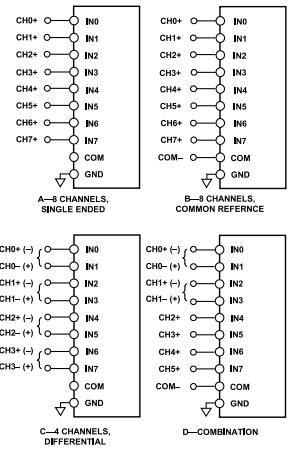

Figure 32. Multiplexed Analog Input Configurations
Figure 32 shows the different methods for configuring the analog inputs with the configuration register, CFG[12:10]. Refer to the Configuration Register, CFG section for more details.
- ▶ **Figure 32 (A)**, single-ended referenced to system ground, CFG[12:10] = 1112. In this configuration, all inputs (IN[7:0]) have a range of GND to VREF.
- ▶ **Figure 32 (B)**, bipolar differential with a common reference point, COM = VREF/2, CFG[12:10] = 0102. Unipolar differential with COM connected to a ground sense; CFG[12:10] = 1102. In this configuration, all inputs IN[7:0] have a range of GND to VREF.
- ▶ **Figure 32 (C)**, bipolar differential pairs with the negative input channel referenced to VREF/2, CFG[12:10] = 00X2. Unipolar differential pairs with the negative input channel referenced to a ground sense, CFG[12:10] = 10X2. In these configurations, the positive input channels have the range of GND to VREF. The negative input channels are a sense referred to VREF/2 for bipolar pairs, or GND for unipolar pairs. The positive channel is configured with CFG[9:7]. If CFG[9:7] is even, then IN0, IN2, IN4, and IN6 are used. If CFG[9:7] is odd, then IN1, IN3, IN5, and IN7 are used, as indicated by the channels with parentheses in **Figure 32 (C)**. For example, for IN0/IN1 pairs with the positive channel on IN0, CFG[9:7] = 0002. For IN4/IN5 pairs with the positive channel on IN5, CFG[9:7] = 1012. Note that for the sequencer, detailed in the Channel Sequencer section, the positive channels are always IN0, IN2, IN4, and IN6.
- ▶ **Figure 32 (D)**, inputs configured in any of the preceding combinations (showing that the AD7682/AD7689 can be configured dynamically).